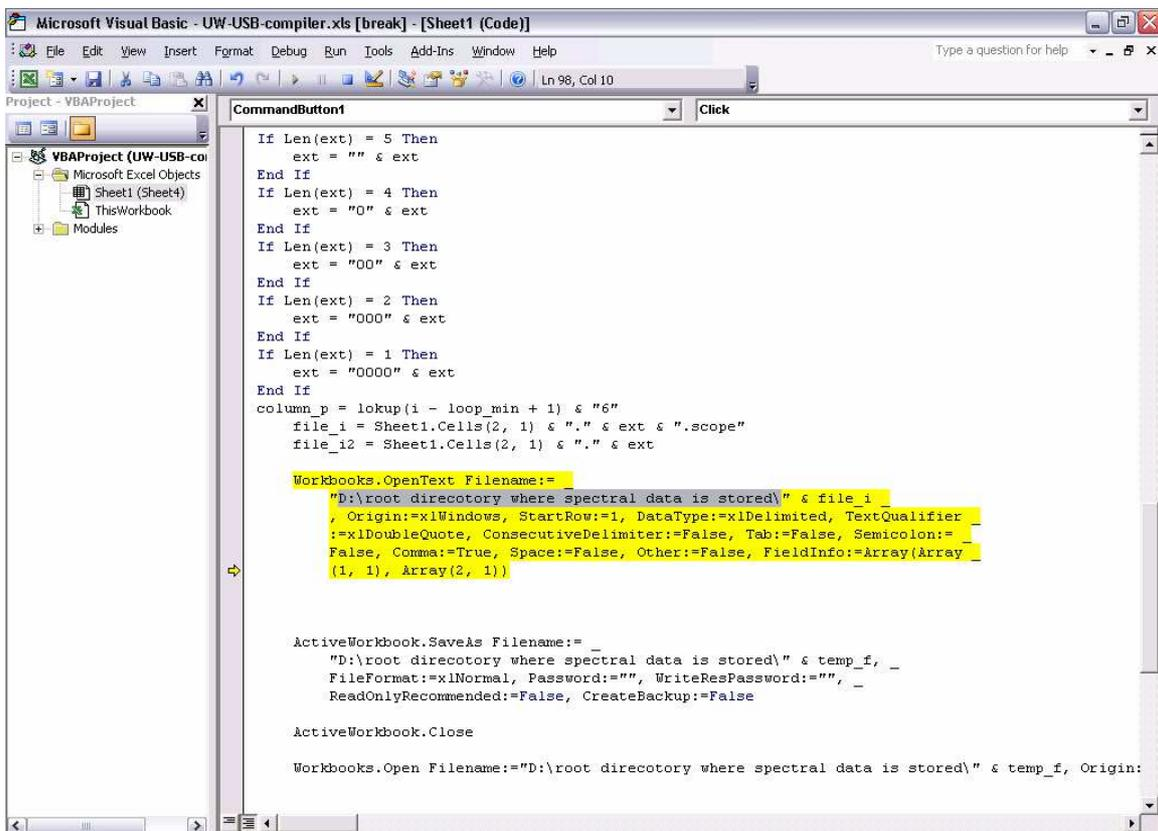
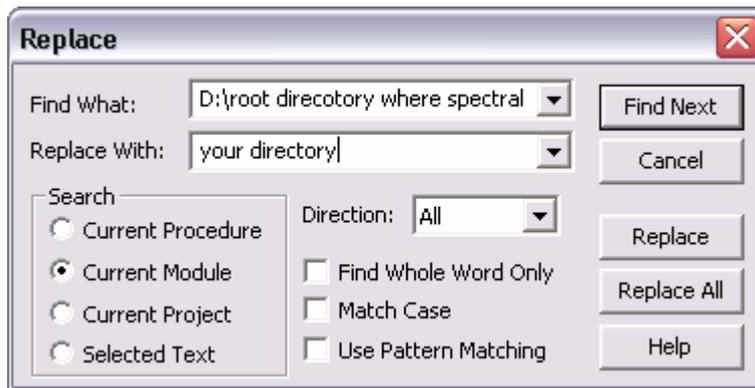

Figure 15 Macro editor
Figure 16 Replace root directory
8. See Figure 15 and Figure 16, Replace the sentence “D:\root directory where spectral data is stored\” with the data directory where the spectra is stored. This should happen on three places.